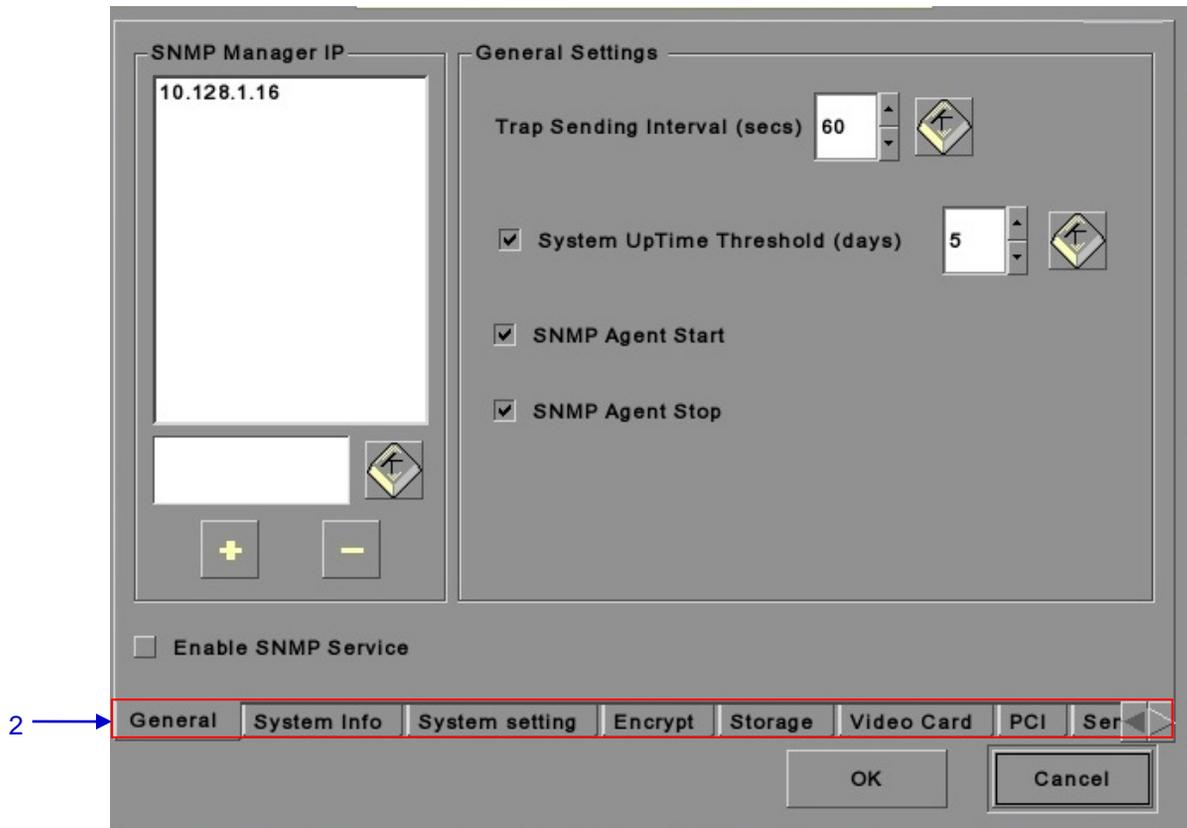

Figure 14 SNMP Configuration [General].
- 1 On the **Configuration** menu, select **SNMP Setup**. A new window appears as seen in **Figure 14**.